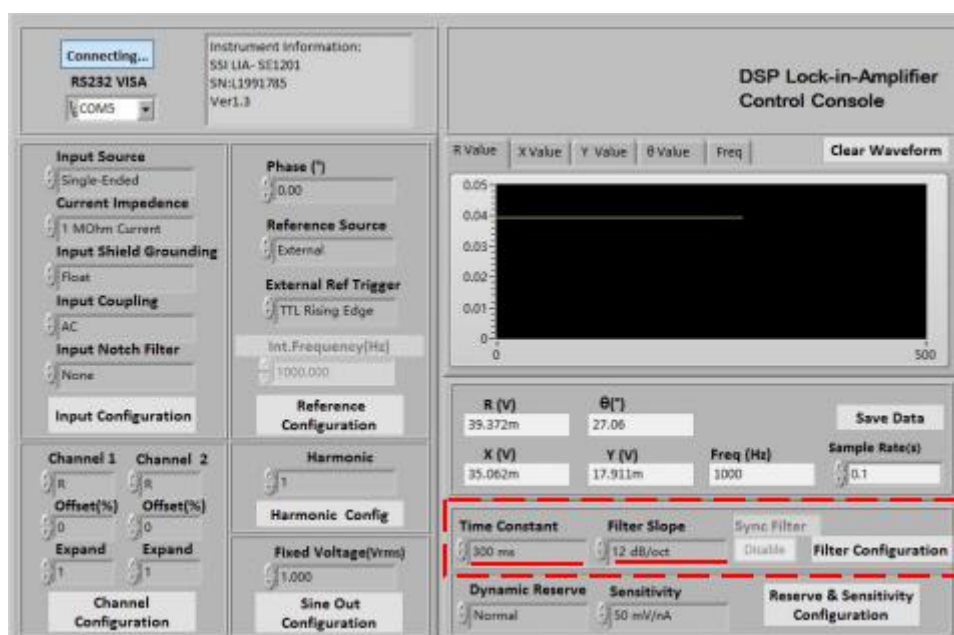

Fig.50 Filter Configuration
3. Choose these two options in “Filter Configuration”, including “Time Constant” and “Filter Slope” with other options in default, as is shown in Fig.50. At last, click the button **Filter Configuration** to finish the configurations.